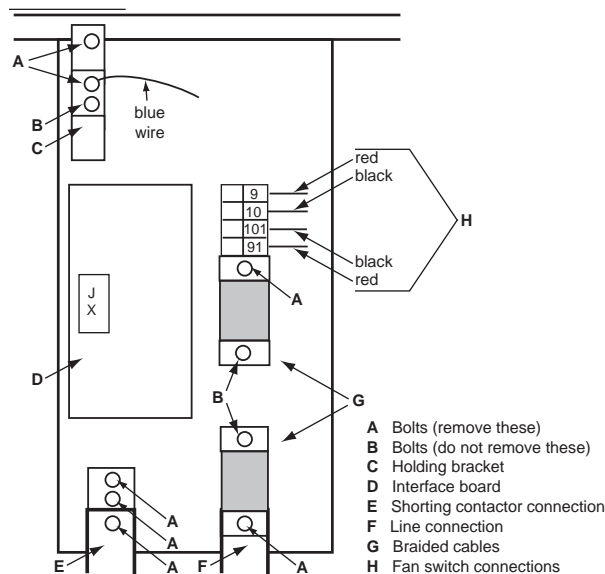
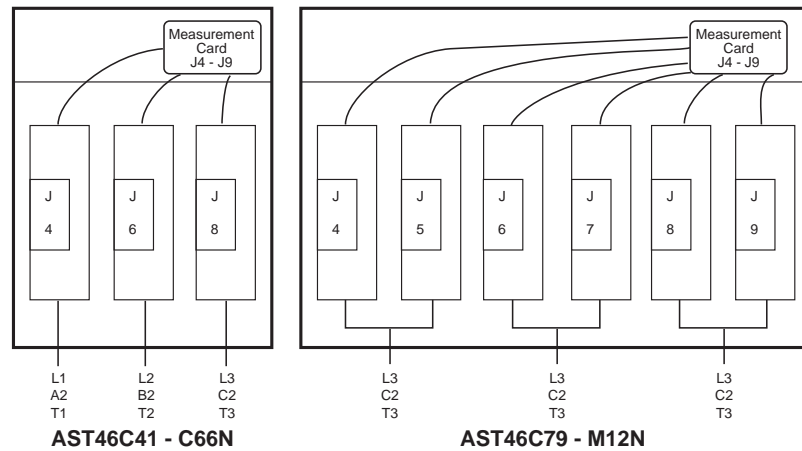

Figure 54: SCR Power Pole Assembly
Figure 57: Power Pole Configuration for C41 to M12 Controllers
1. Disconnect the four colored transformer supply wires from the terminal block beneath the control power connections. See Figure 57 on page 76.
5. To install a replacement CPT, reverse steps 1 through 4. See Figure 57: Note the proper connections.
4. To remove the SCR pole assembly, disconnect the wires and remove the bolts indicated in Figure 54. Use a 10 mm wrench to remove the bolts.
6. Pull the SCR pole assembly from the controller chassis using the handle on the mounting bracket (C in Figure 54) and the free end of the lower braided cable.
6. Replace the jumper from the current measure board (see Figure 57 on page 76). Connect the four wires to the terminal block (see Figure 54 on page 74).